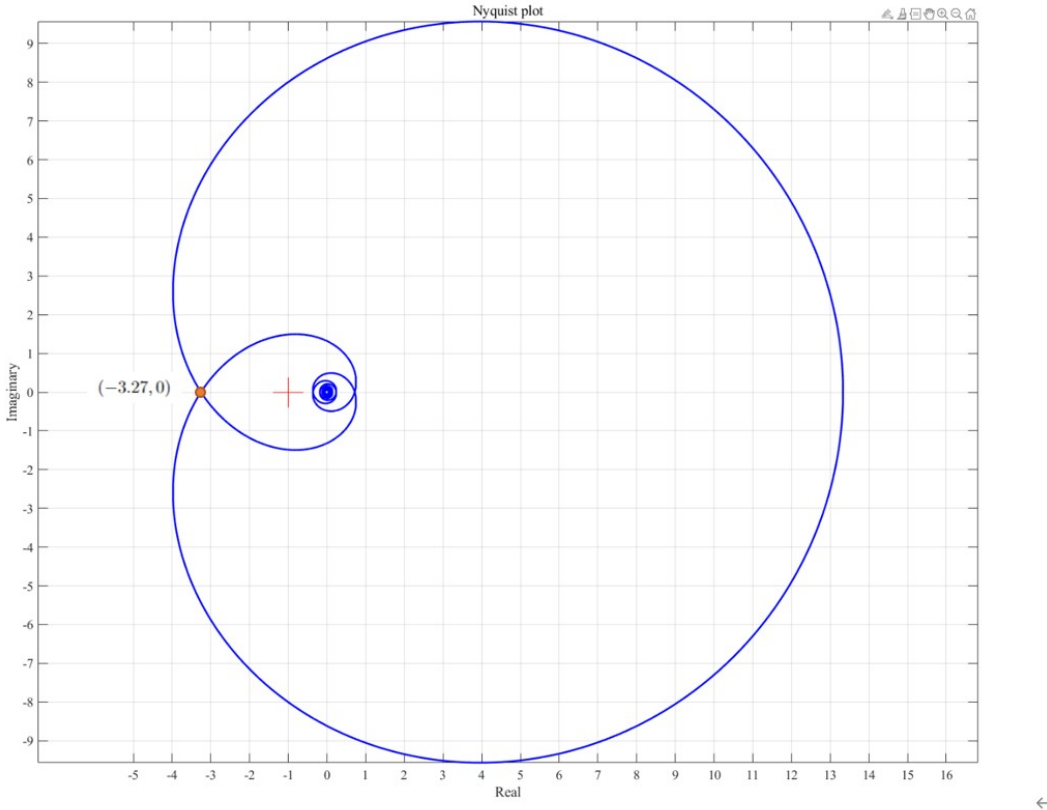

Figure 16: Nyquist plot for control of blood pressure with anesthesia
during an operation. A model of drug-induced anesthesia control is formulated with a feedback control system when the open-loop transfer function $L(s) = G(s)H(s)$ and $F(s) = 1 + G(s)H(s)$. If we use a PD-controller $G_c(s) = K(s + z), z > 0$ to control this system. Setting $K = 5$, the Nyquist plot of the feedback system is shown in Figure 16, in which the poles of the open-loop system are -1 and -3 .
- The system shown in Figure 16 is stable? Give reasons to explain it.